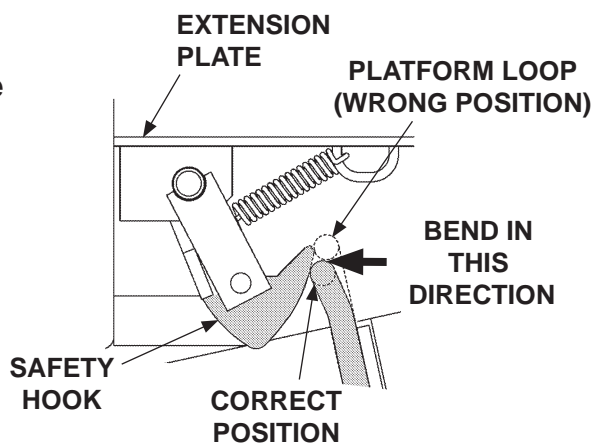

FIG. 22-2
2. Adjust by bending the platform loop as shown in **FIG. 22-2**.